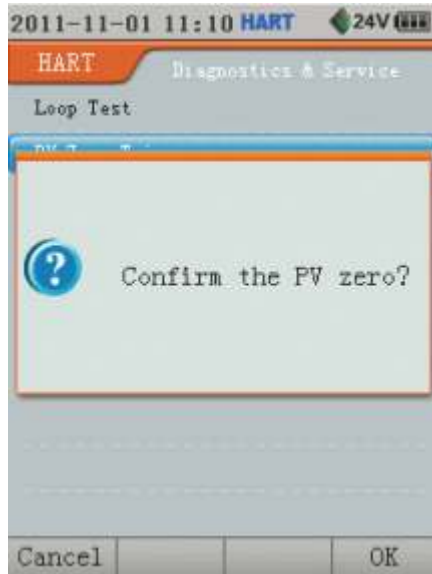

Figure 11.8 HART PV Zero Trim
1. In the HART diagnostic and service interface, choose PV Zero Trim from the list and then press **Enter** or **Select** to start the PV zero operation. You will be asked to confirm the PV zero (As shown in Figure 11.8).